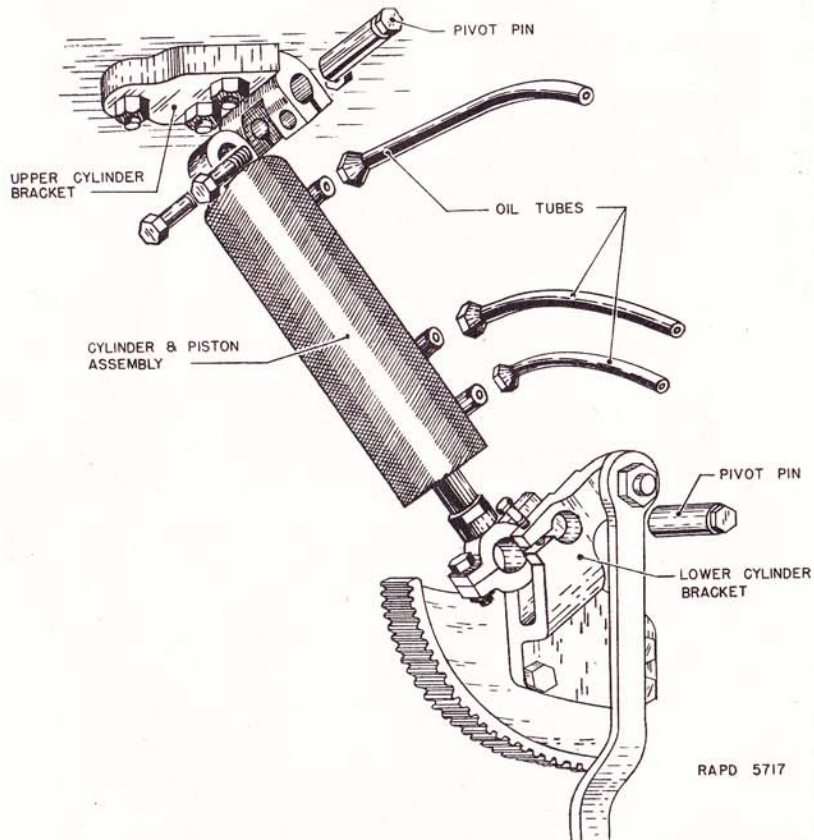
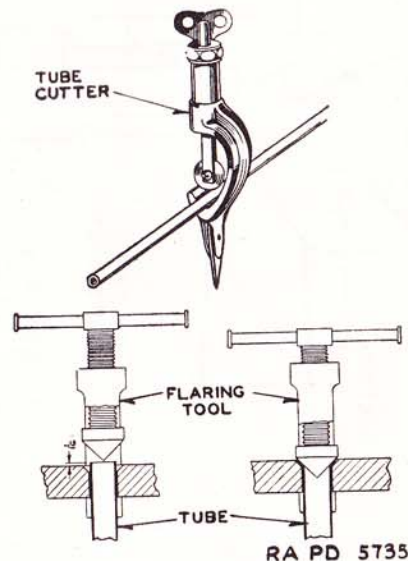

FIGURE 79.—Piston and cylinder.
FIGURE 81.—Tube flaring.
- b. Piston and cylinder.*—(1) Throw the master toggle switch to the "off" position, disconnecting the power supply to the stabilizer.
- (2) Disconnect and remove the oil lines from the cylinder assembly and plug with flareplugs.
- (3) Loosen the clamping bolts (fig. 79) and remove the cylinder pivot pin at both ends of the assembly.
- (4) Remove the piston and cylinder assembly.
- (5) Replace in the reverse order of removal.
- (6) Check to see that the piston and cylinder assembly is functioning freely without binding.
*c. Repair and replacement of defective oil lines.*—(1) Disconnect the defective oil line and catch any oil drainage from the affected part of the system in a container.
(2) Reflare the tubing using a standard flaring tool (fig. 81). The tubing should be cut as close as possible to the flare with a tubing cutter and *not* with a hacksaw.
- (3) Reconnect the flarenut to its proper connection.
- (4) Replace completely any damaged oil lines.
- (5) If connecting elbows cannot be tightened sufficiently to stop leakage, remove and tin threads with soft solder.
- (6) Recharge the system with oil as outlined under paragraph 125.
- d. Replacing shielded cable and wires.*—(1) If the shielded cable connecting any part of the stabilizers becomes frayed or broken it should be replaced.